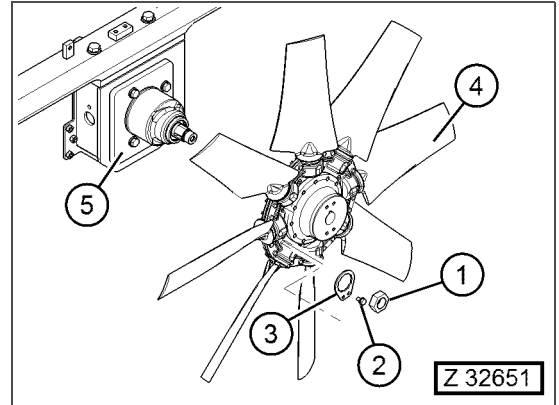

Fig. 3-99
4. Assemble the central nut (Fig. 3-99, Pos. 1) to attach radiator fan at the radiator fan motor (Fig. 3-99, Pos. 5).
5. Assemble the bolt (Fig. 3-99, Pos. 2) to attach the locking plate (Fig. 3-99, Pos. 3) at the radiator fan.